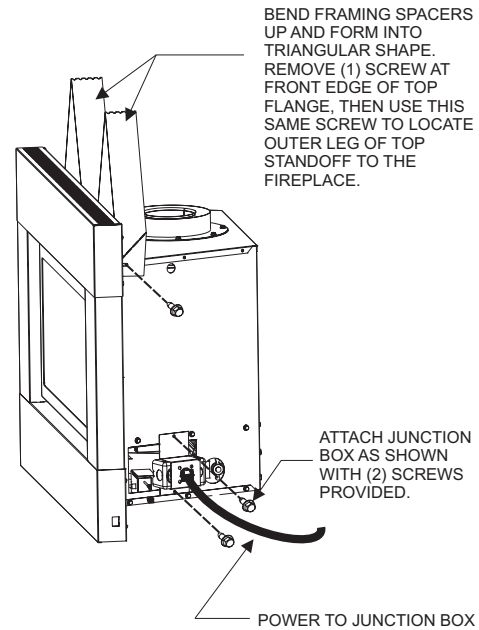

Figure 10
7. Prior to installing the Fireplace, hand bend the two (2) Top Framing Spacers into triangles as shown in Figure 10. To attach the outer leg of the standoffs, remove one (1) screw from the front of the outer top flange of the fireplace, then re-install the same screw through the tab of the top standoff spacers into the outer top to secure. See Figure 10.
The blower accessory may be installed at any time before or after installation of the fireplace providing that the junction box has been properly pre-wired and secured to the right hand side of the fireplace outer wrap. See Figures 10, 43 and 44.
**Note:** For shipping purposes, the junction box is installed on the inside of the outer fireplace wrap. It is secured with (2) screws on the side of the fireplace. Once removed from the side of the fireplace, wiring to the junction box and receptacle can be performed. Re-install the junction box assembly to the side of the fireplace so that the receptacle faces inward. See Page 11, Figure 10.